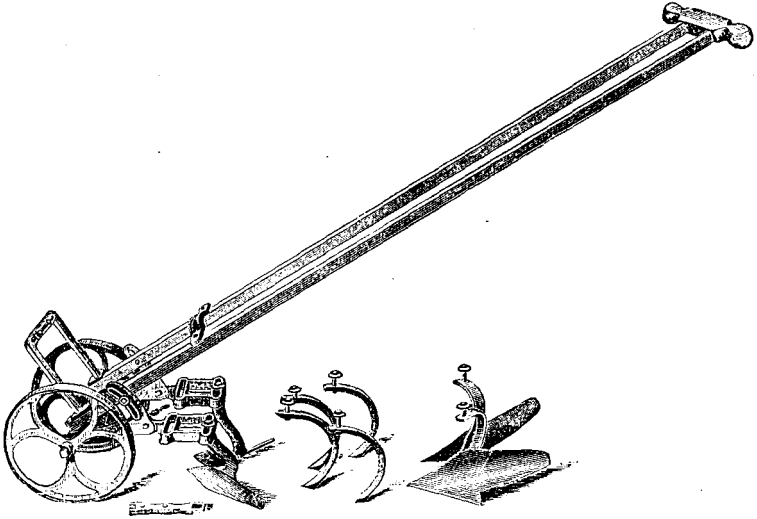

FIG. 8. Jewel Double Wheel Hoe.
*The Jewel Double-Wheel Hoe* is a very desirable hand implement for close cultivation of garden crops. It is made to be used as a straddle hoe or between the rows only. It is well adapted for the light, close cultivation that is necessary when plants are young and just starting into growth, or for the deeper and more thorough cultivation during the summer months. It is of light construction, but strong and well made and compares favorably with the implements of other makers designed for the same purpose. List price, \$6. Made by Bateman Manufacturing Co. Fig. 8.